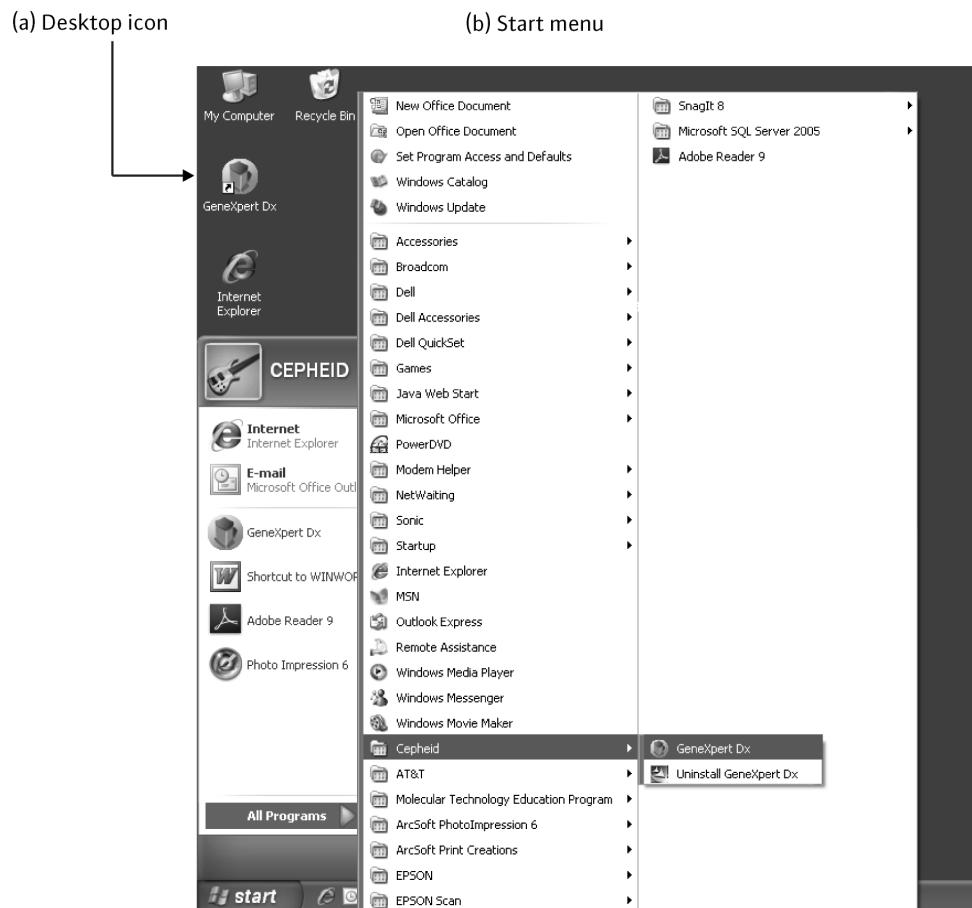

Figure 5-1. Methods of starting the software
- On the Windows desktop, double-click the GeneXpert Dx icon (Figure 5-1, item a).
- On the Windows desktop, click **Start**, point to **All Programs**, point to **Cepheid**, and then click **GeneXpert Dx** (Figure 5-1, item b).